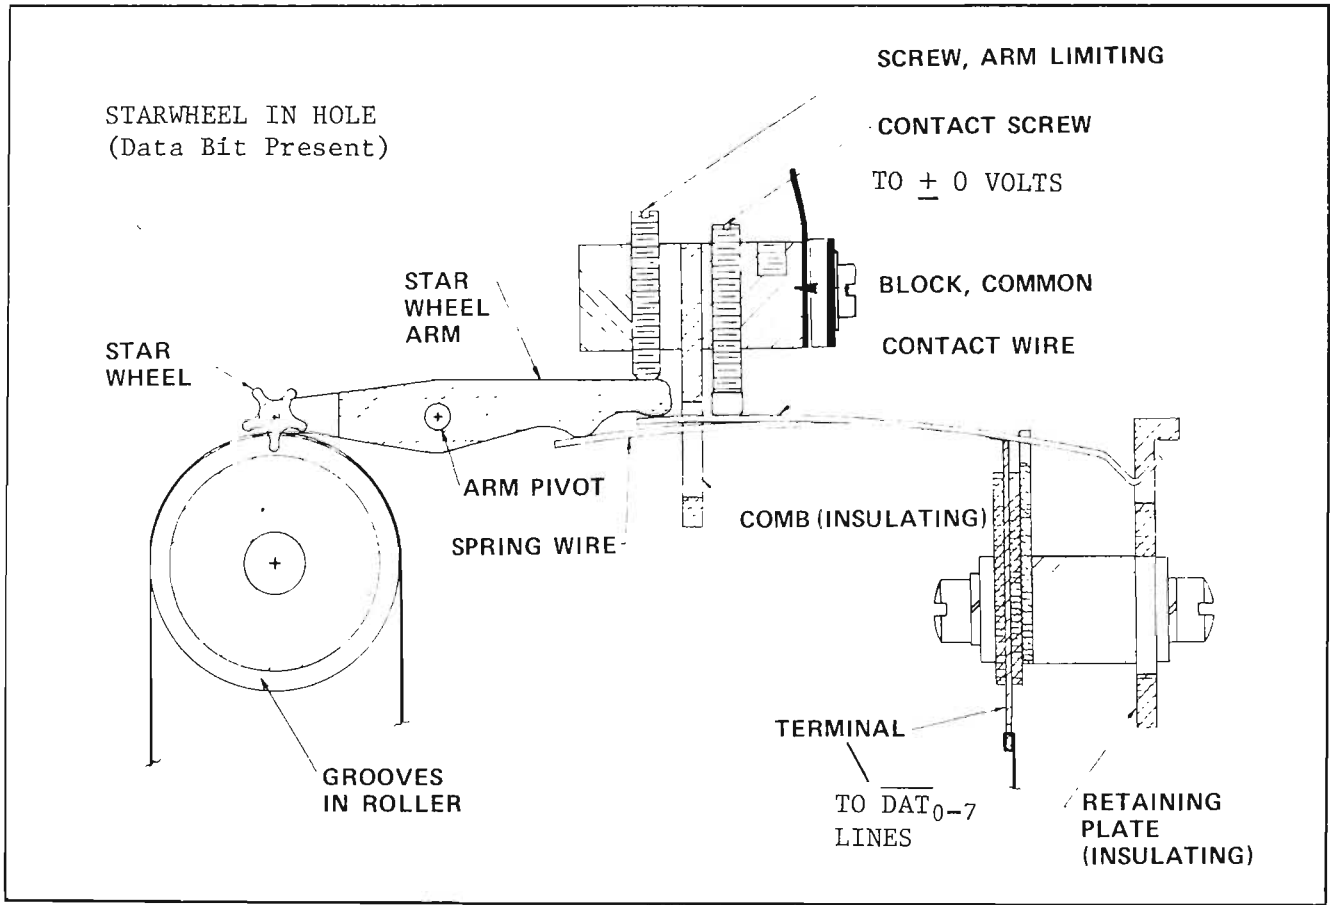

FIGURE 2
- 1) *Sensing Mechanism* - Data sensing is accomplished by the use of *starwheels*. When a starwheel enters a hole punched on the ASCII tape, an arm carrying the starwheel closes a switch. A sensing switch *remains closed* when a series of holes are sensed in that bit channel. Only when an no-hole condition is sensed is the starwheel raised and that particular sensing switch opens. See Figures 2 and 3, page 10.